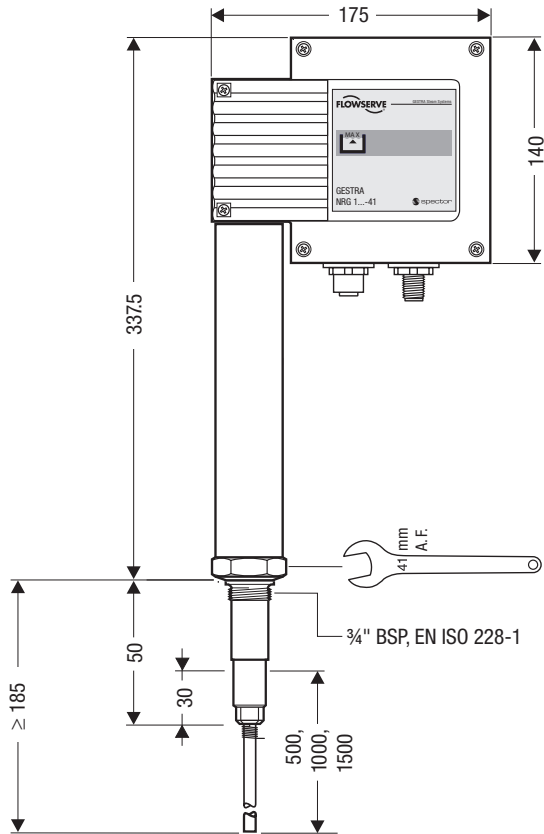

Fig. 2
Screwed  $\frac{3}{4}$ ", EN ISO 228-1. **Fig. 2, Fig. 3**
2. Carefully determine required measuring length of electrode. Observe min. length, **Fig. 2, Fig. 3**.